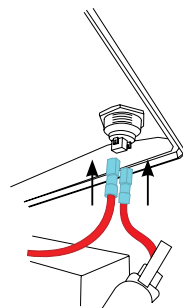

Fig. 6
- 5.** Reconnect the two red wires to the pushbutton switch (FIG. 6). Polarity is not important (it does not matter which wire connects to which switch connection).